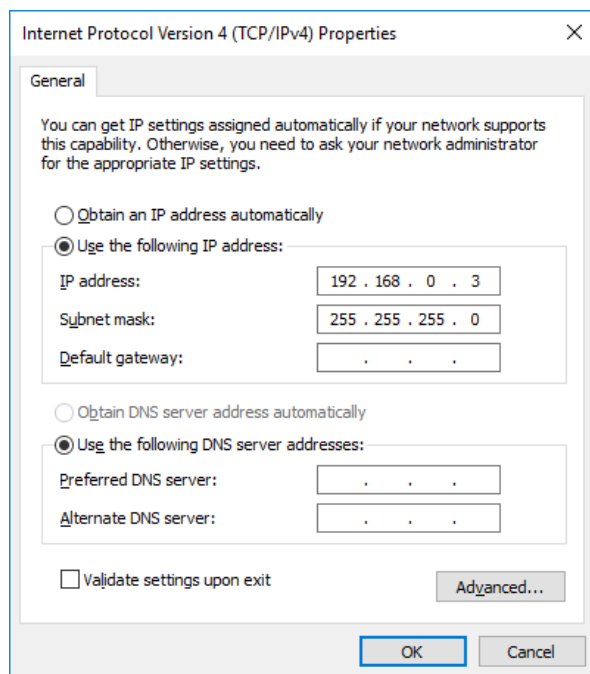

Figure 1: TCP/IPv4 Properties Window
8. Select "Use the following IP Address" and enter the parameters shown in Figure 1 in the IP Address and Subnet Mask fields.